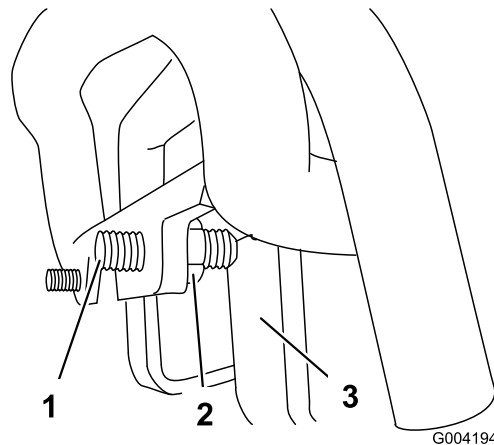

Figure 54
3. If the traction unit veers to the **left**, loosen the **right** jam nut and adjust the tracking set screw on the front of the traction control (Figure 54).
4. If the traction unit veers to the **right**, loosen the **left** jam nut and adjust the tracking set screw on the front of the traction control (Figure 54).